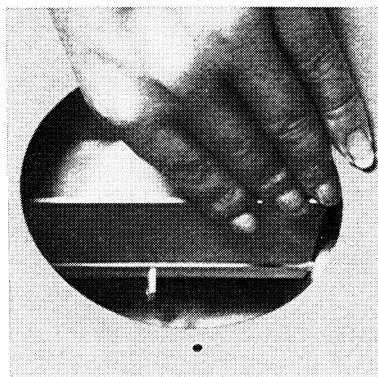

Abb. 5
2. Bend check flap through exhaust air outlet and remove it (fig. 5); proper functioning will otherwise be impaired!